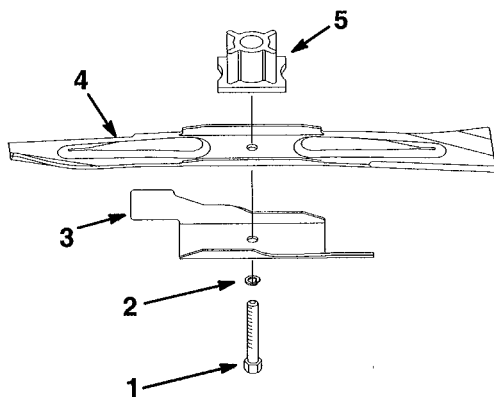

Figure 26
5. REMOVING BLADE—Grasp end of blade using a rag or thickly padded glove. Remove blade bolt, lockwasher, blade accelerator, blade and retainer (Fig. 26).